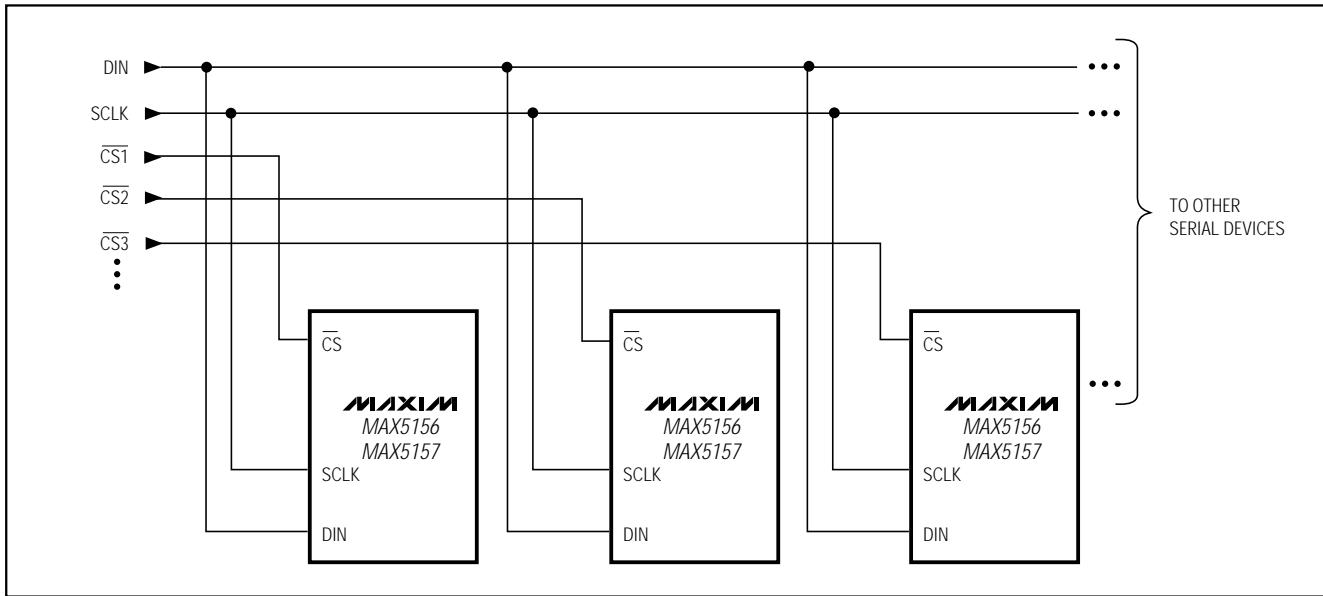

Figure 8. Multiple MAX5156/MAX5157s Sharing a Common DIN Line
Figure 8 shows an alternative method of connecting several MAX5156/MAX5157s. In this configuration, the data bus is common to all devices; data is not shifted through a daisy-chain. More I/O lines are required in this configuration because a dedicated chip-select input (CS) is required for each IC.